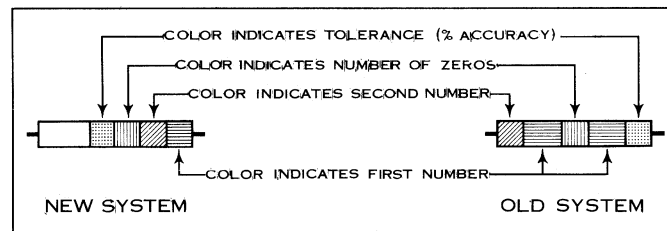

Figure 12 RMA Resistor Color Code Chart
**EXAMPLE:** A 50,000 ohm resistor of standard tolerance is indicated by a green ring (5), a black ring (0) and an orange ring (000) as shown in the new system of marking in Figure 12. In the old system of marking, at the right of Figure 12, the resistor would be painted green (5) with a black end (0) and an orange dot or ring in the center (000).